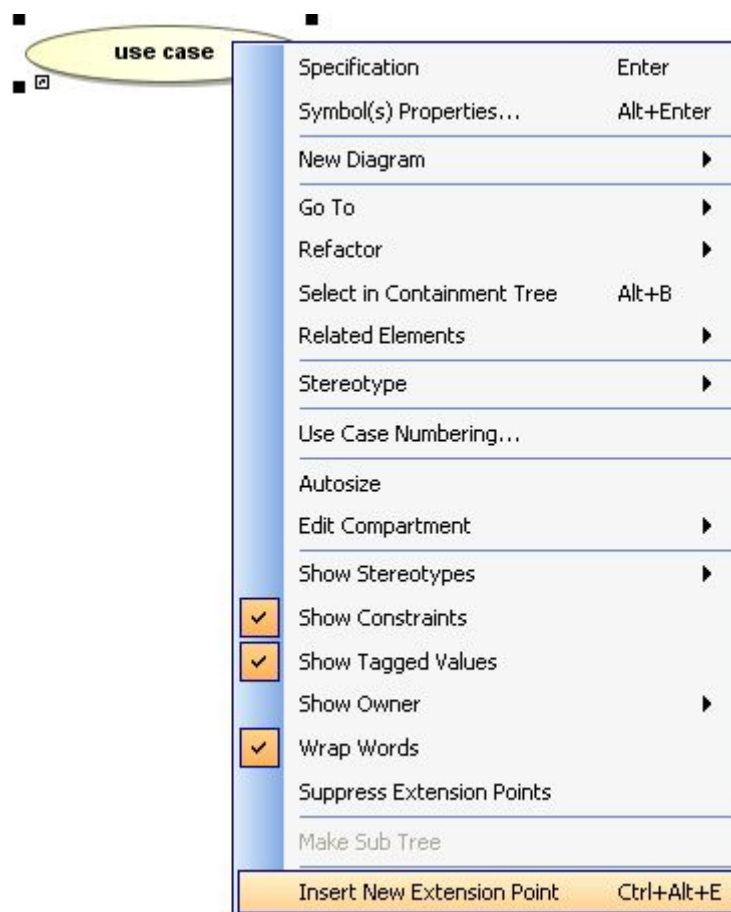

Figure 200 -- Use Case Shortcut Menu
- Select **Insert New Extension Point** on the Use Case shortcut menu (Figure 200); or